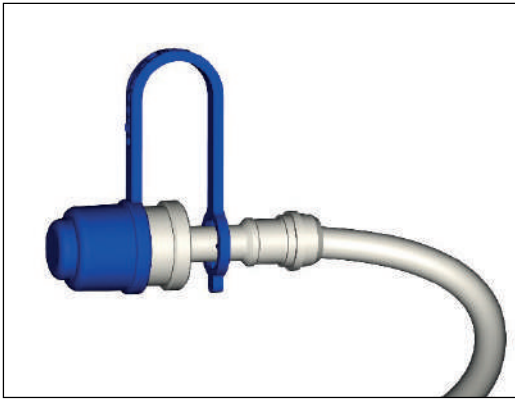
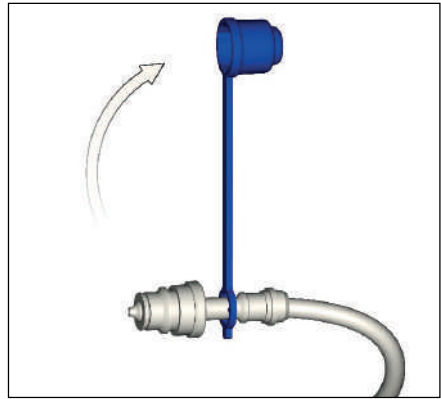

Figure 10-8 Automatic battery watering system valve protective cover
Figure 10-9 Opening the valve cover of the automatic battery watering system
- Remove the protective cap on the hose (See Figure 10-8 and Figure 10-9).